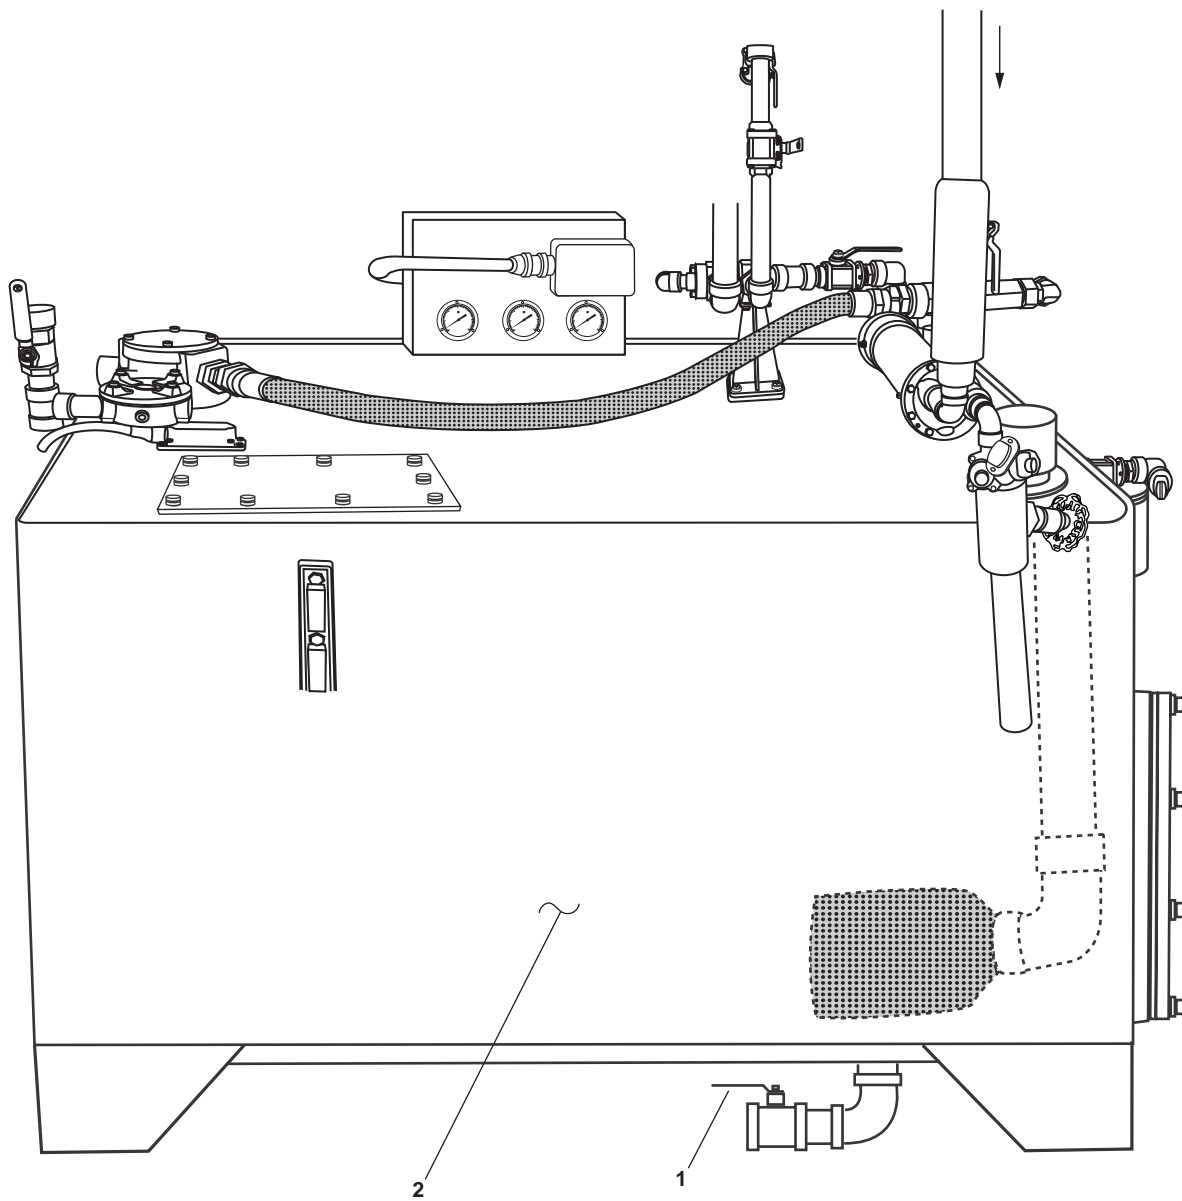

Figure 1. Towing Machine Hydraulic Reservoir
1. Place a suitable drain pan under the drain valve (figure 1, item 1) of the towing machine hydraulic reservoir (figure 1, item 2).
2. OPEN the drain valve (figure 1, item 1) and drain the resevoir (figure 1, item 2) into a suitable drain pan.
3. Notify the maintenance supervisor that the towing machine hydraulic reservoir (figure 1, item 2) is drained for replacement.
4. After installation of the towing machine hydraulic reservoir (figure 1, item 2), notify unit maintenance to service the towing machine hydraulic reservoir (WP 0030 00).